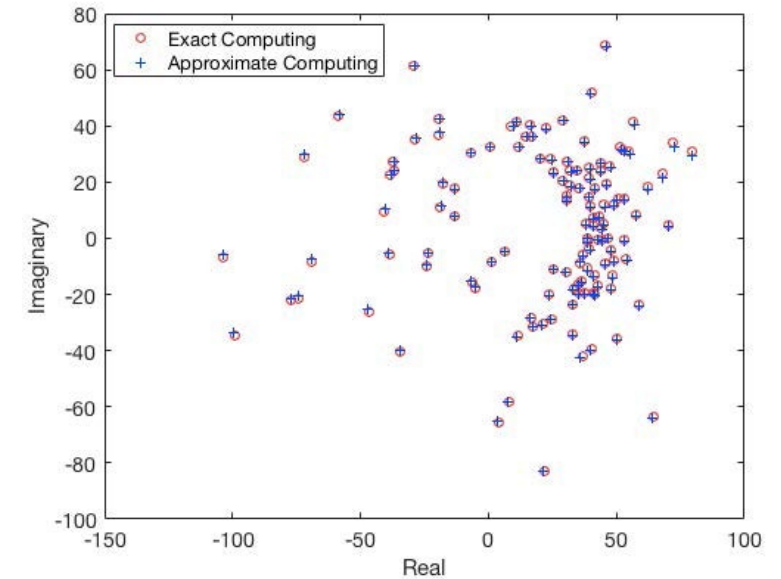

Figure 4: Complex Gains for 124 Sensors in a Radio Telescope [3]
are investigating approximate computing to achieve power efficient digital processing in Radio Astronomy (RA). RA studies celestial objects at radio frequencies. The sky spatial intensity distributions are estimated over the field of view in a radio telescope to generate the sky images. The signal processing pipeline in radio astronomy is expected to be error tolerant because it contains the attributes of the inherent resilience, namely: real-life/redundant data input, and approximate/statistical/self-healing computation patterns. Therefore, we are analyzing RA applications for error tolerance [3]. During calibration, complex sensor gains are estimated to compensate for environmental conditions. An Approximate Computing version of the calibration stage was realized by randomly skipping computations. In spite of skipping computations, the calibration process was still converging and the accuracy of the calculated complex sensor gains still met the requirements. In Fig. 4, 124 sensors are considered and their exact and approximate complex-valued gains are plotted. We are also investigating the best approximation schemes for the dominant kernels like Multiply-Accumulate (MAC) processors. A large part of the research is done in BSc. and MSc. projects.